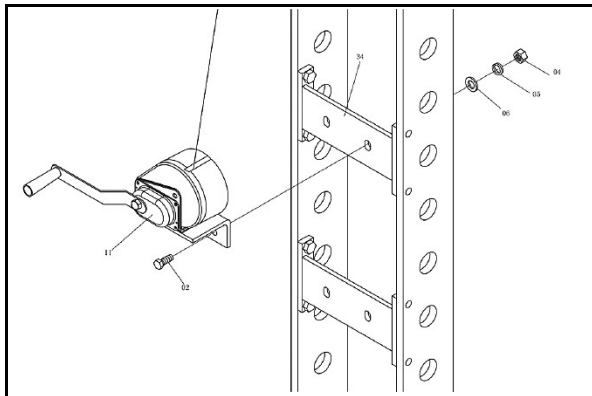

Fig. 16: Installing the winch
Step 2: Fasten the winch with the screws, washers and nuts on the outside of the frame (see Fig. 16).